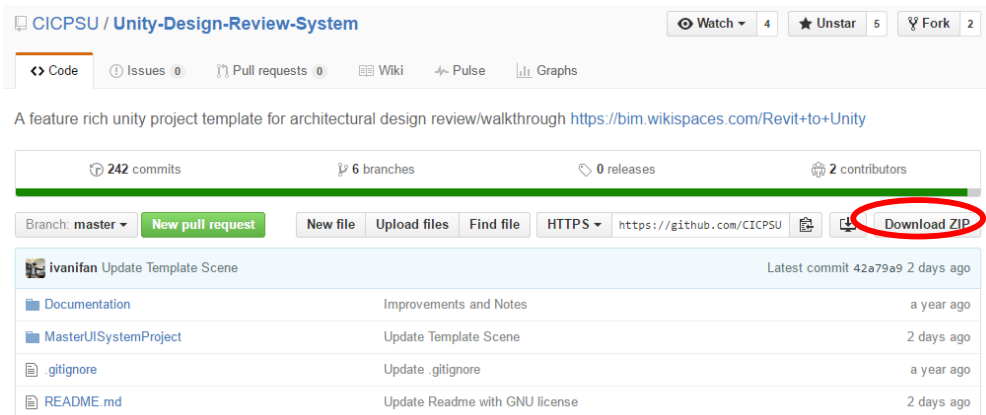

FIGURE 23: DOWNLOAD ZIP FILE FROM GITHUB.COM
- a. Access this webpage: <https://github.com/CICPSU/Unity-Design-Review-System> , and Download all the material by clicking, 'Download ZIP' (See Figure 23)